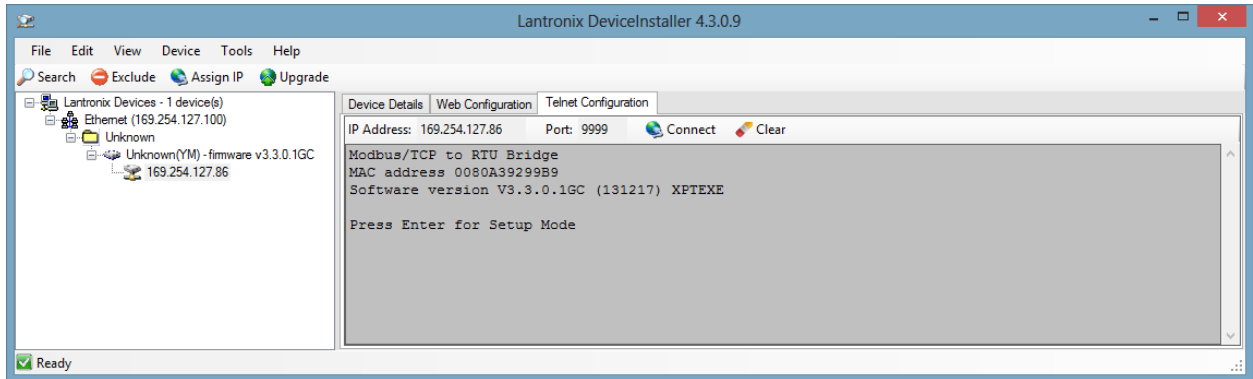

Fig 6.3.1
6.3 As shown in fig 6.3.1, press the enter key.